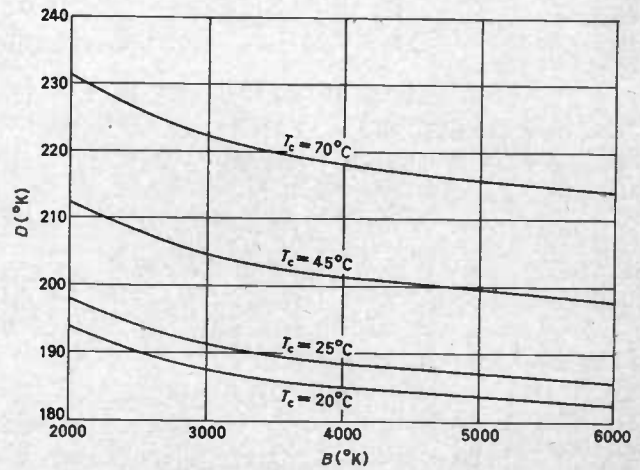

Fig. 1. Variation of the parameter D with the characteristic temperature B at various ambient temperatures
This can be seen in Fig. 1 where D is plotted against B for various ambient temperatures.
Therefore, E_{\max} can be calculated from Fig. 1 or 2 and equation (17) for given values of ambient temperature, characteristic temperature (B), dissipation constant and cold resistance (R_o) or, if the ambient temperature is 20°C or 25°C, by the approximate formulae in equations (19) and (20).